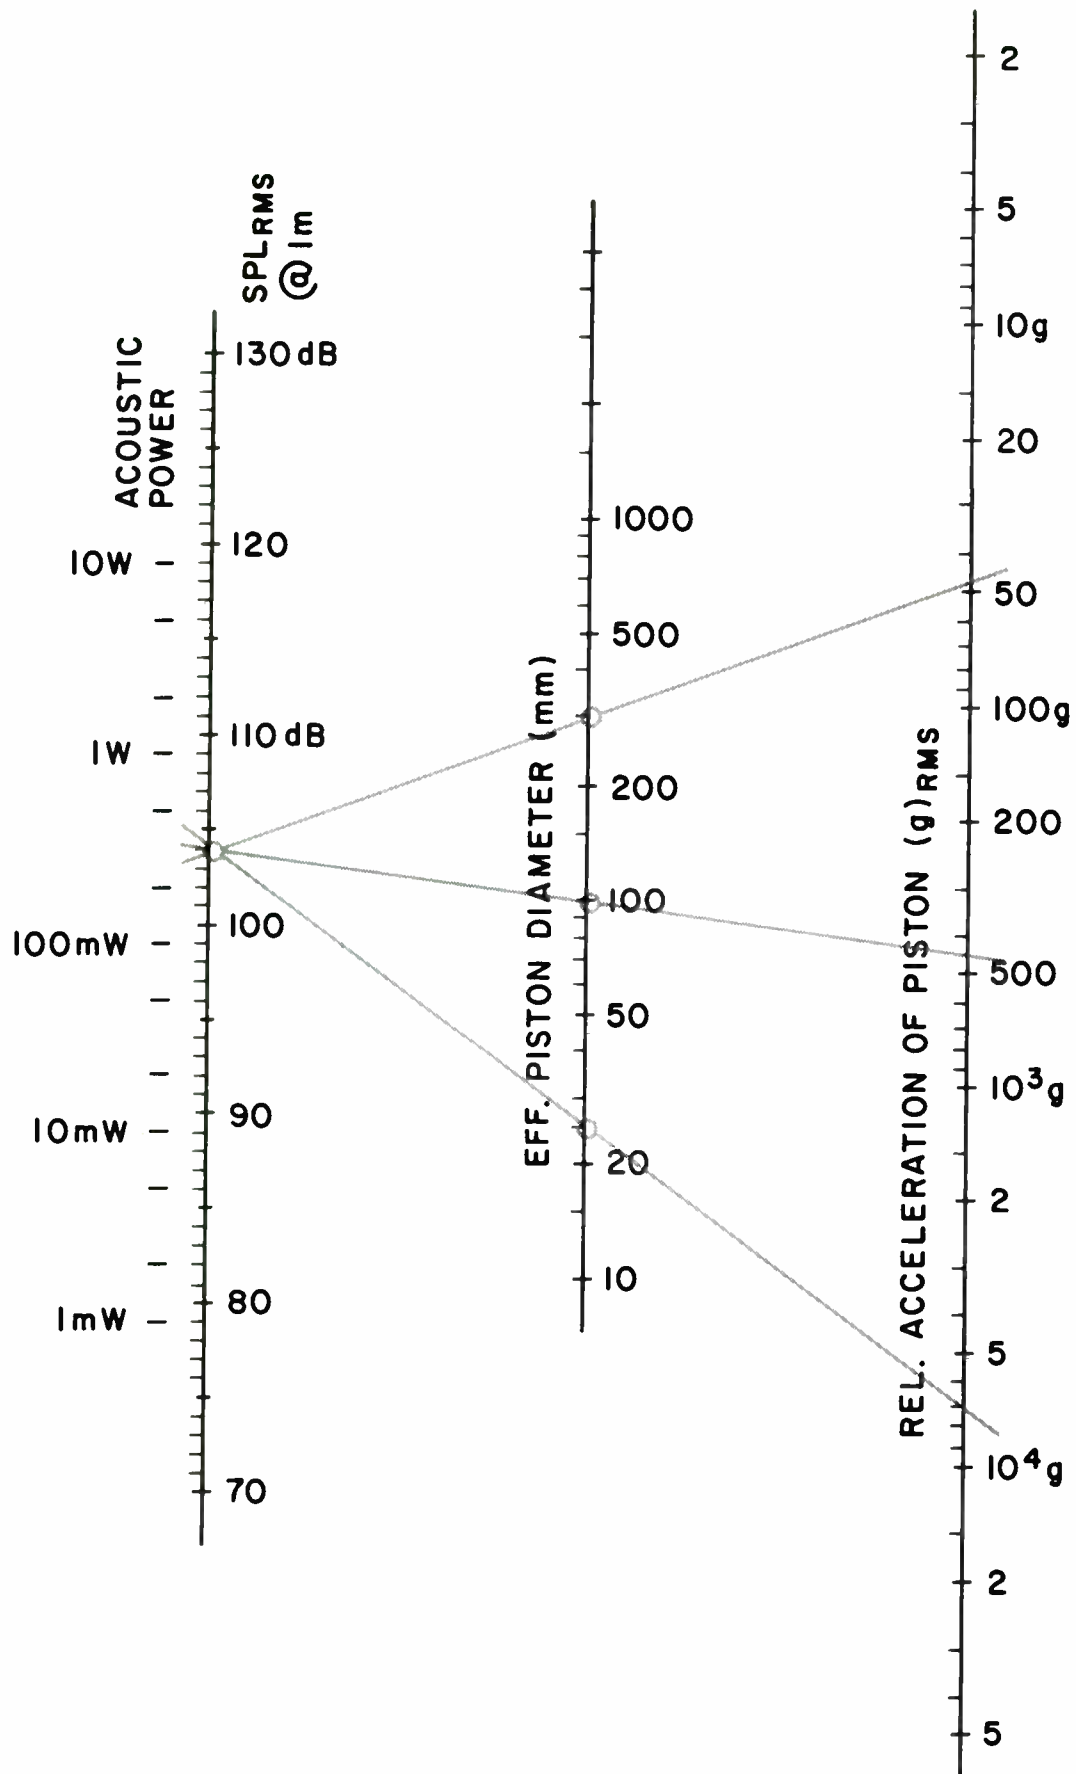

FIGURE 3: Piston acceleration versus SPL. Radiation into full space.
See Fig. 3. Finally, the force relationship (F) is as follows:
portional to the piston or cone acceleration (Fig. 3.) At the 110dB SPL from the previous example, the woofer is accelerating with 48g, the midrange with 450g and the tweeter with an astonishing 7,000g, where g equals 9.81m/sec². The necessary motor force equals piston mass times piston acceleration and might be many pounds.